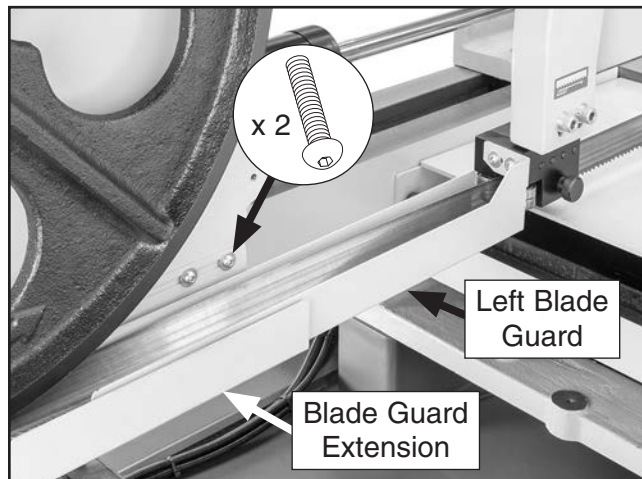

Figure 41. Blade guard extension components.
3. Loosen (2) button head cap screws shown in **Figure 41**.
4. Adjust blade guard extension until left blade guard is supported, then tighten screws from **Step 3** to secure (see **Figure 41**).